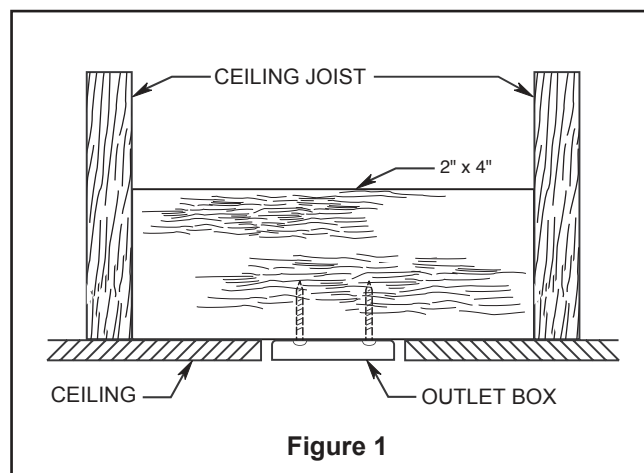
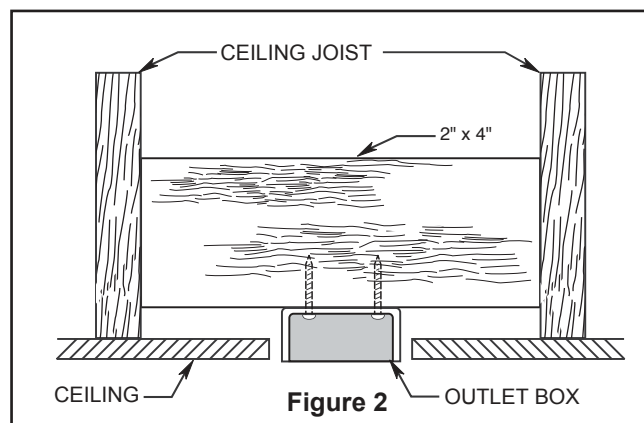
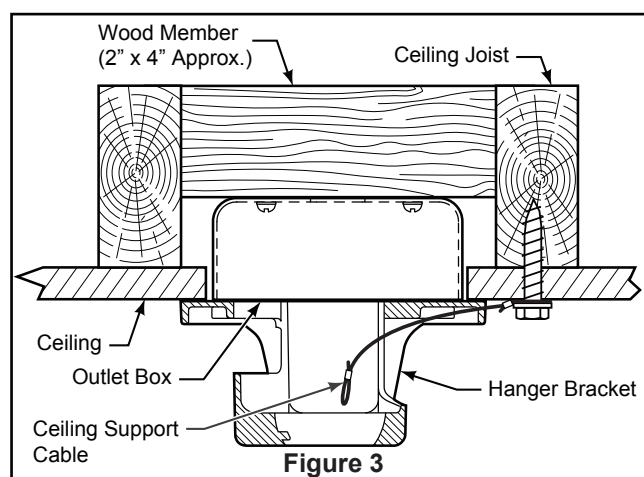

Figure 1
Figure 2
Figure 3
Your new ceiling fan will require a grounded electrical supply line of 120 volts AC, 60 HZ, 15 Amp Circuit. Electrical code requires use of a fan-rated outlet box to support the extra weight and motion associated with a ceiling fan. A fan-rated box will be labeled as such and typically supports up to a 70lb ceiling fan. Fan-Rated Outlet Boxes vary in ratings and design. Ensure the ratings of your ceiling fan outlet box meet the requirements for the ceiling fan being installed. Figure 1, Figure 2 and Figure 3 depicts different structural configurations that may be used for mounting the outlet box.
Low profile box (Figure 1)
Deep box (Figure 2)
Deep box with brace (Figure 3)
3. Loosen the two set screws and locking nuts in the downrod support of the motor assembly. Route the black, white and blue wires and safety cable through the downrod. (Figure 3)
1. Securely attach the hanger bracket to the outlet box using the outlet box screws and washers supplied with the outlet box. (Figure 3)
2. Drill a 1/4" pilot hole into the building structure to prevent splitting or cracking with installation of the lag bolt. Using the 3/8" x 2" lag bolt and flat washer, attach safety cable to ceiling joist or wood structural member. The lag bolt will pass through the flat washer, safety cable loop, and into the building structure. (Figure 3)
NOTE: Ceiling support cable cannot be secured to outlet box only, it must be directly secured to ceiling joist or structural member using the 3/8" x 2" lag bolt and flat washer. (Figure 3)
2. Slide the receiver into the hanger bracket before wiring as shown in figure 3.
3. Remove one of the three screws in the switch housing assembly. Retain the screw for later and slightly loosen the remaining two screws. (Figure 3)
- 3. To make fan operational, install 23A/12V battery (included) in hand-held remote transmitter, with fan power off. Then follow the remote code setting process. (If not used for long periods of time, remove battery to prevent damage to transmitter). Store the remote away from excessive heat or humidity. (Figure 3)